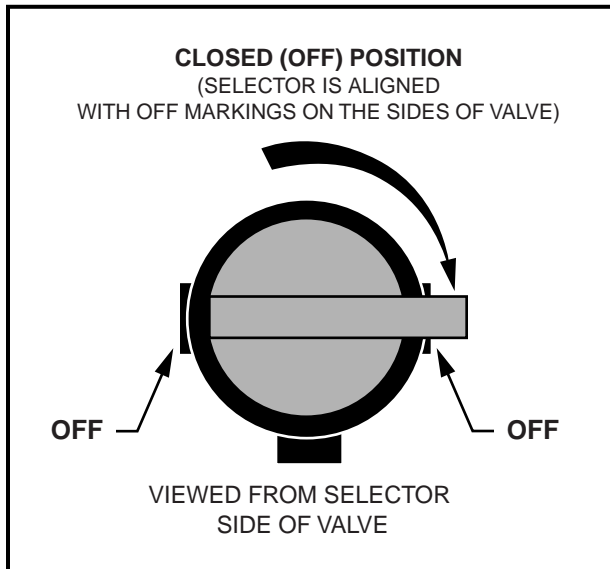

Figure 14 Fuel Shut-off Valve – Closed
2. Turn the key switch to OFF and place the Forward/Reverse handle in the NEUTRAL position. Remove the key. Turn fuel shut-off valve to closed (OFF) position when the vehicle is not in use (**Figure 21, Page 31**). **See also Figure 14, Page 24.**
- 3.1. Place Forward/Reverse handle in NEUTRAL and the neutral lockout cam in the SERVICE position. Turn the fuel shut-off valve to the closed (OFF) position (**Figure 14, Page 24**) and run the engine until fuel remaining in the carburetor and fuel lines is used up and the engine stalls. Return the neutral lockout cam to the OPERATE position.